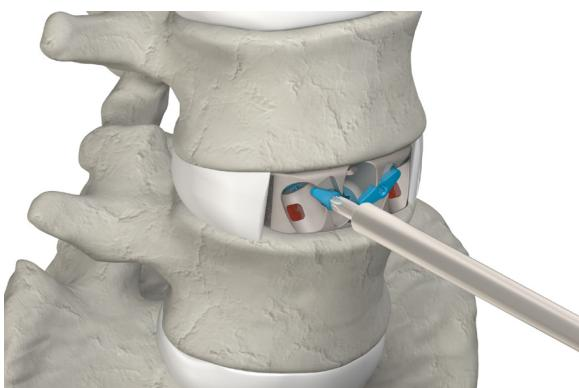
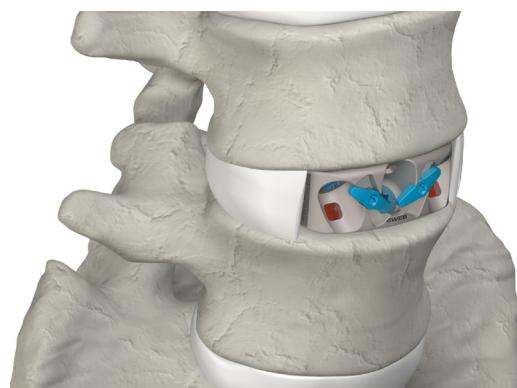

Figure 24
Figure 25
- ▲ Use the Anti Back Out Plate Driver to rotate the two Locking Plates approximately 90° (Fig. 24). The wings of the Locking Plate will stop against the recess on the anterior face of the implant (Fig. 25).